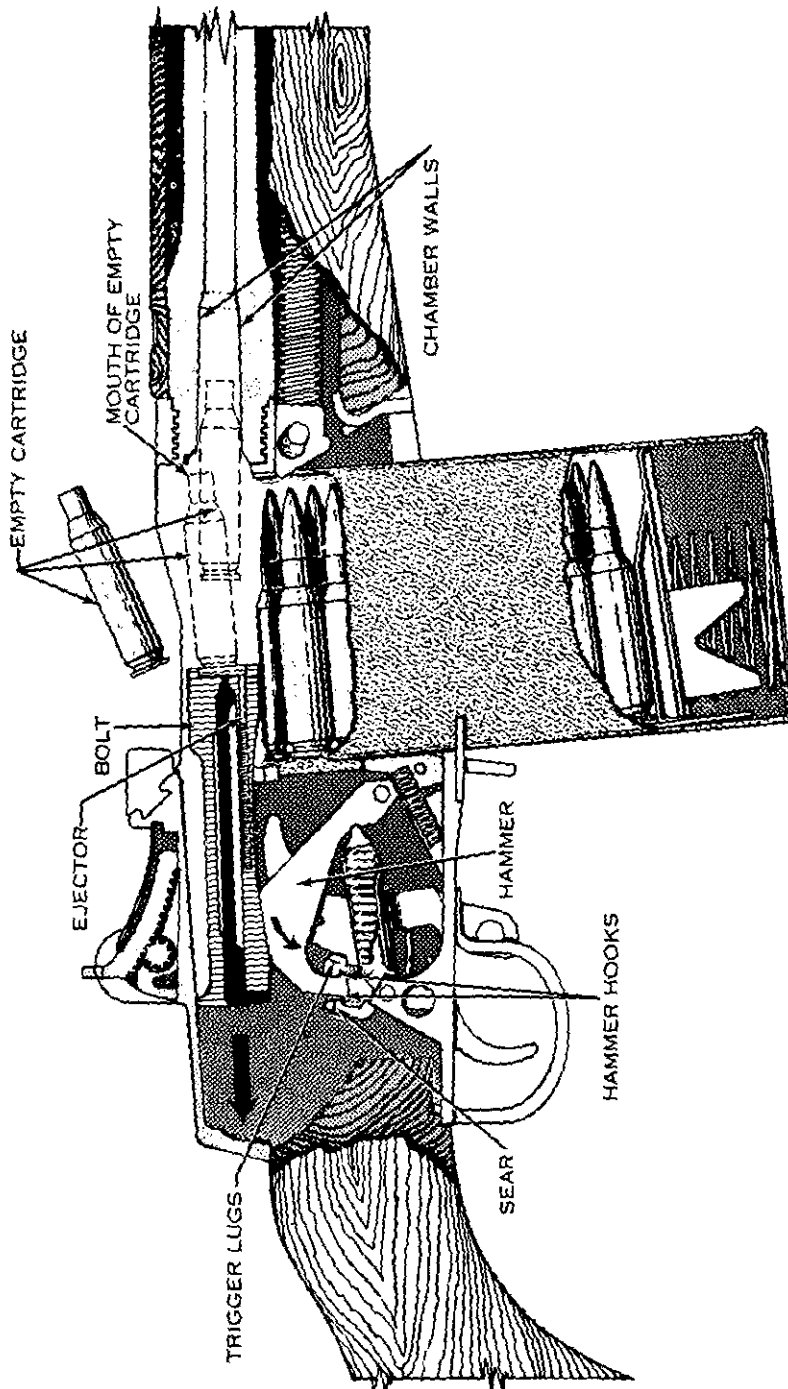

Figure 44. Ejecting and cocking.
- (7) *Ejecting.* Ejecting is throwing the empty cartridge out of and away from the receiver. As soon as the bolt has withdrawn the empty cartridge case clear of the chamber, the force of the ejector spring and plunger pushes the bottom edge of the cartridge base away from the bolt face. This causes the front (neck) of the cartridge case to move upwards and to the right. The rapid rearward movement of the bolt causes the cartridge case to strike the angle on the lower right corner of the magazine charger guide as the cartridge case is turned sideways. The rapid forward movement of the operating rod handle causes the leading edge of the "camming hump" to strike the cartridge case with the angle on the outer edge of this "hump" continuing the movement of the empty case to the right front. When the last round has been fired and the bolt is held in the rearward position by the bolt lock, the ejector propels the last round out and away from the receiver (fig. 44).
- (8) *Cocking.* Cocking occurs when the hammer is forced into the proper position for firing the next round. This happens as the bolt continues to the rear. The rear end of the bolt forces the hammer back and rides over it. The hammer is caught by the sear if the trigger is still held to the rear, but by the trigger lugs if the trigger pressure has been released (fig. 44).